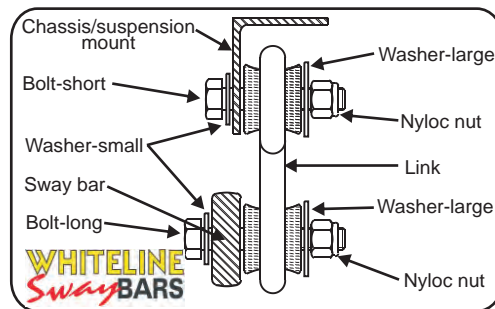

Fig. 2:
4. Assemble the sway bar end links using Fig.2 as a guide for washer positioning. Fit end links to 'box' shaped bracket as in Fig.'s 3 & 4 using the 45mm long 3/8" bolts.